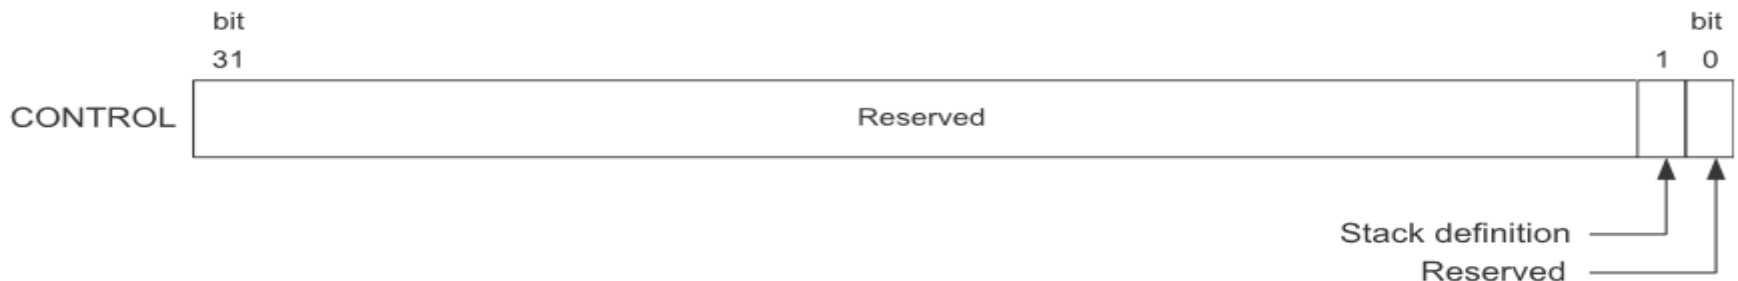

Figure 3.6:
- The stack pointer selection is determined by the processor mode as well as the configuration of the CONTROL register (Figure 3.6).